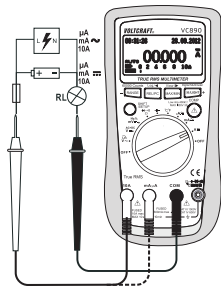

Fig. 3
3. Insert the red test lead in the mA μA or 10A measuring socket (5, 6). Insert the black test lead in the COM measuring socket (8) (Fig. 3).